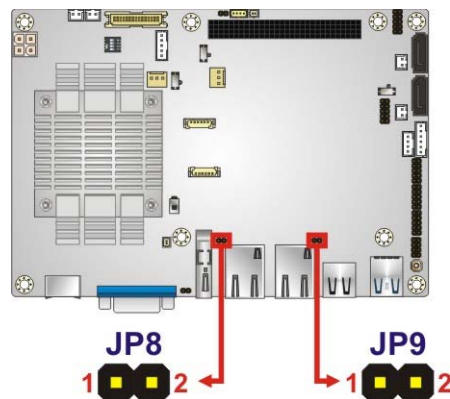

Figure 3-15: LAN LED Connector Locations
- CN Location:** See Figure 3-15